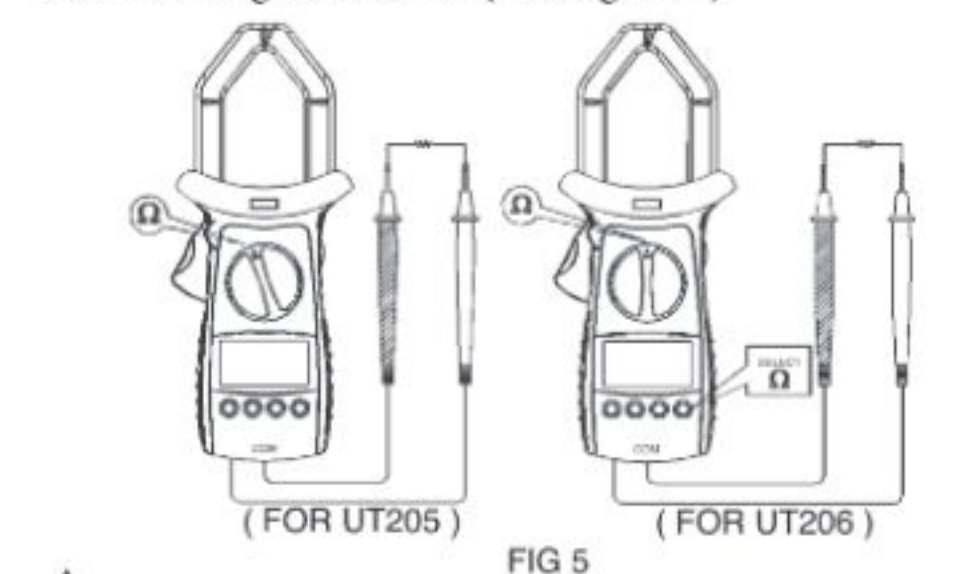

FIG 5
C. Measuring Resistance (See Figure 5)